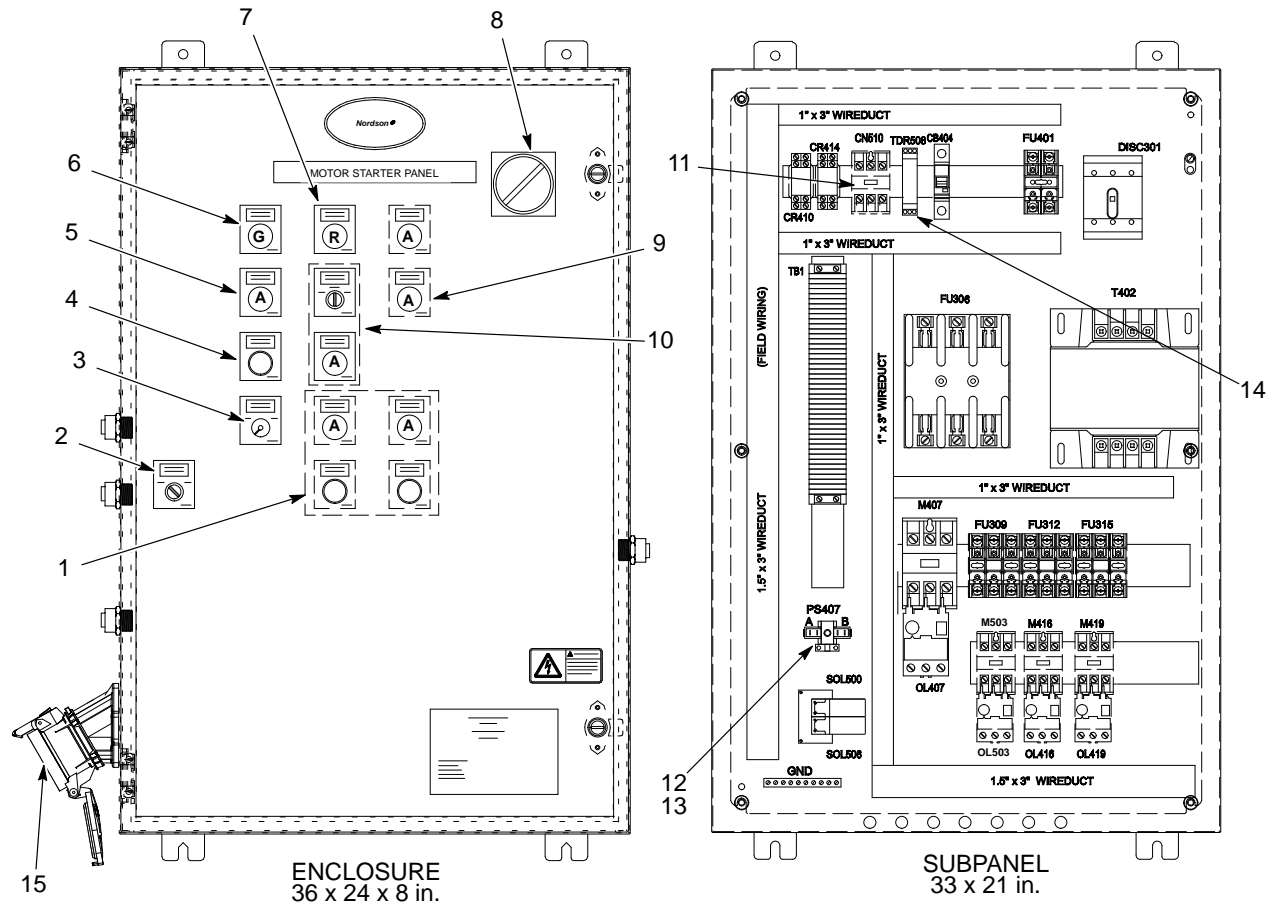

Figure 2-7 Typical Electrical Panel Controls and Indicators
Refer to Table 2-5 and Figure 2-7. A typical manually controlled system uses an electrical panel similar to the panel shown in Figure 2-7. Your system's electrical panel may be different.
1. Disconnect the system electrical power and open the system electrical panel (2).
2. Set the transfer-pump delay to 60 seconds (see Figure 2-7, (14)). Close the electrical panel.
1. Set all air pressure regulators on the pneumatic panel (3) to zero.
4. Use the seal control valve (6) to inflate the pneumatic seal between the color module and the fan section. Make sure the seal is pressing against the top of color module equally on all four sides
5. Turn on the exhaust fan (see Figure 2-7, (5)).